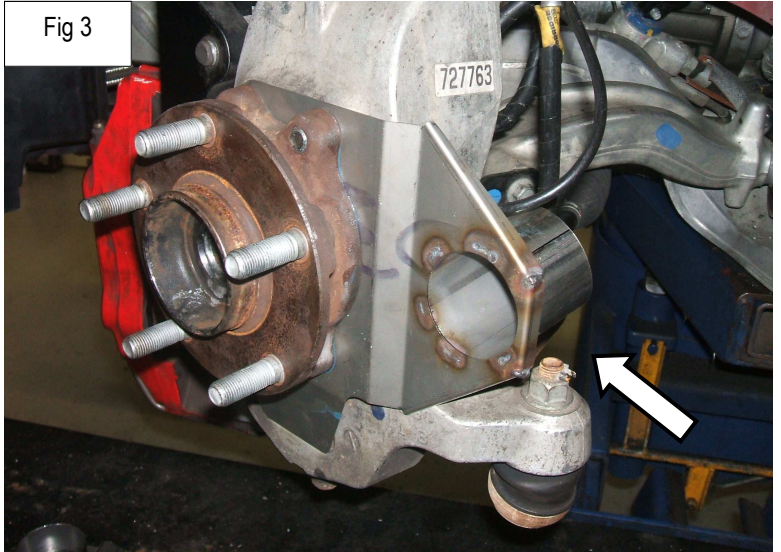

Fig 4
10. Next you will need to replace the stock front cover off to the side of the center of the fascia. You will need to unbolt the 2 screws and set the upper clip aside as they will be reused. See **(Fig.4) NOTE (STOCK FASCIA ONLY)**
13. Begin by routing the brake duct hose from the front end of the fascia through the open area in front of the wheel well. See (Fig.4) You will route the end of the hose through the opening into the wheel well. You will need to pop off the small panel held on by plastic clips to give you your clearance hole. See (Fig.5)